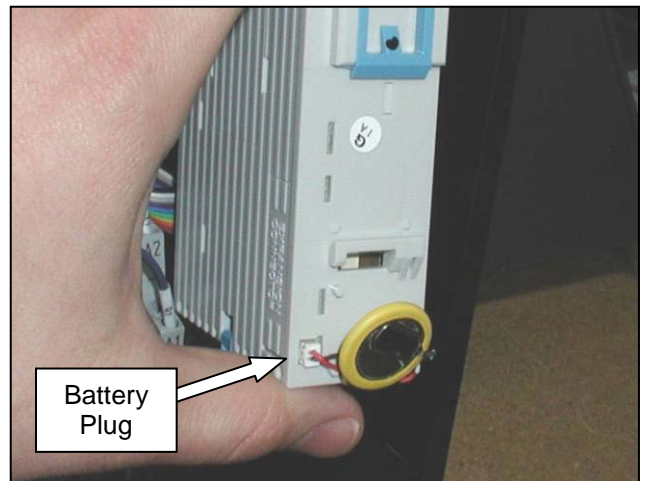

Figure 3-80. PLC Battery Connector
8. Disconnect old PLC battery wiring plug (Figure 3-80).